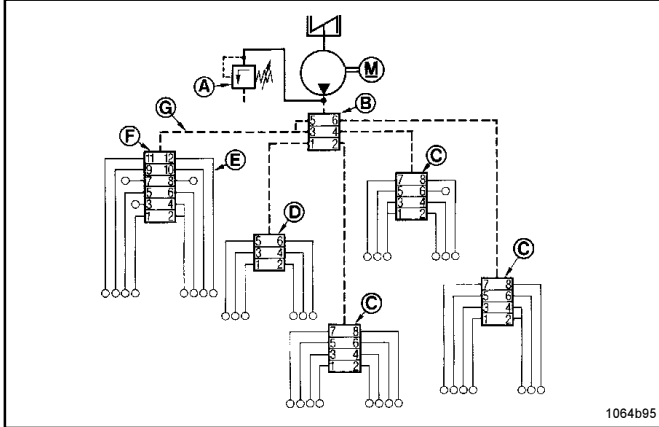

Fig. 14 - Example of a lubrication system
- The main metering device (B, Fig. 14) and the secondary metering devices are connected by a main line G. This feature automatically causes the linkage of the progressive system connected downstream of the pump.